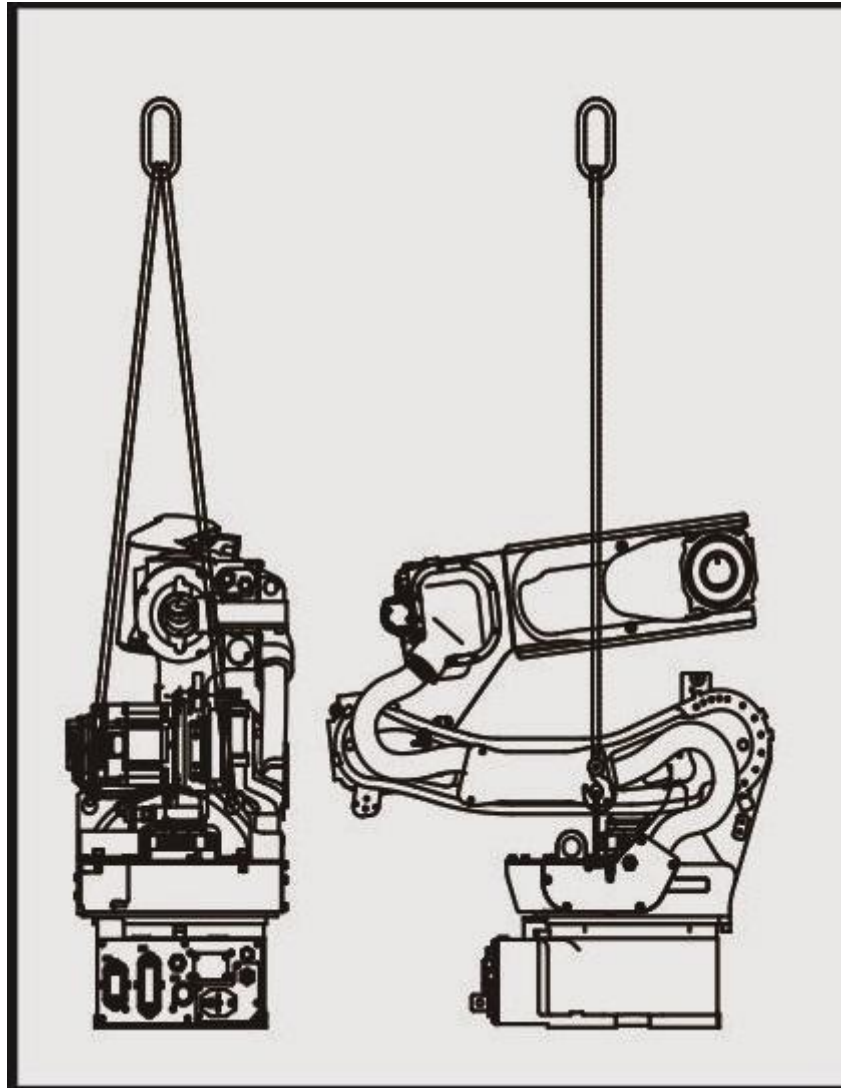

Figure 4.1 Robot handling attitude
- (1) The robot must be adjusted to the handling attitude (refer to Figure 4.1)
- (2) Lock the lifting ring at the waist of the robot.
- (3) Use a sling, or wire rope, that meets the robot's handling requirements, to pass through the lifting ring.
- (4) Place a cushioning material where the sling has contact with the robot body.
- (5) When handling, it must be slow and smooth to prevent the robot from shaking during handling.
- (2) Use a pallet that can support the weight of the robot.
- (3) Fix the robot in the middle of the pallet with M16 bolts. It is prohibited to place the robot on the edge of the pallet.
- (4) Handling must be slow and smooth to prevent the robot from shaking during handling.